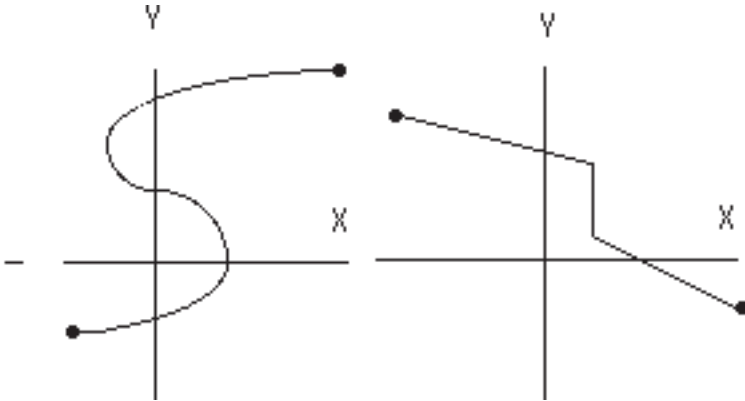

Figure 13. Examples of Illegal Functions.
2) The nonlinear function must be a single-valued function of  $X$ . That is, for each input value, there can exist only one output value. Figure 13 shows two illegal functions. This limitation is seldom encountered in natural phenomenon.